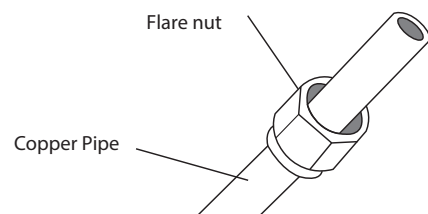

Fig. 7.4
3. Place flare nuts on both ends of pipe. Make sure they are facing the correct direction, because they cannot be put on or have their direction changed after flaring. See Fig. 7.4